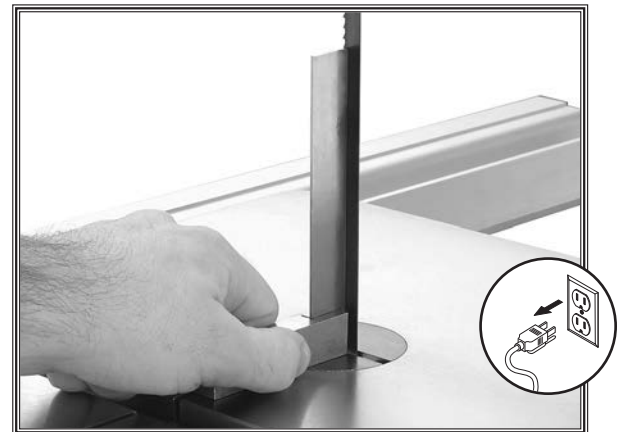

Figure 19. Using a machinist's square to adjust the table tilt.
3. Place the machinist's square flat on the table and against the side of the blade, as shown in **Figure 19**.